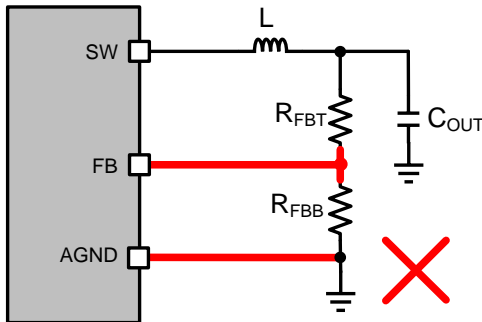
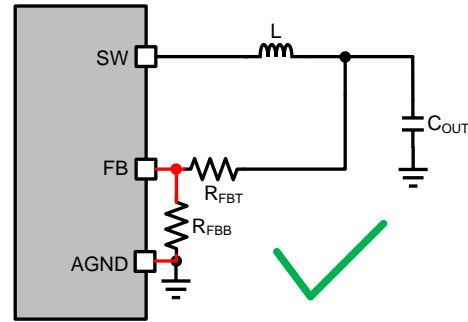

Figure 15. Avoid Long Traces to the FB Node
Figure 16. Use Short and Thin Traces at the FB Node
Protecting sensitive nodes is also very important for SMPS layout. One such node is the feedback (FB) pin. The FB node is a high impedance node. Avoid placing the resistor divider far away from the FB node and connecting FB node with long traces, as shown in Figure 15. To minimize the parasitic capacitance and noise pickup by the trace to FB node, the FB trace should be short and thin. As shown in Figure 16, it is recommended to place the resistor divider as close as possible to the FB pin and route a thin trace from output voltage sense away from noisy path, preferably from the other side of a shielding plane.